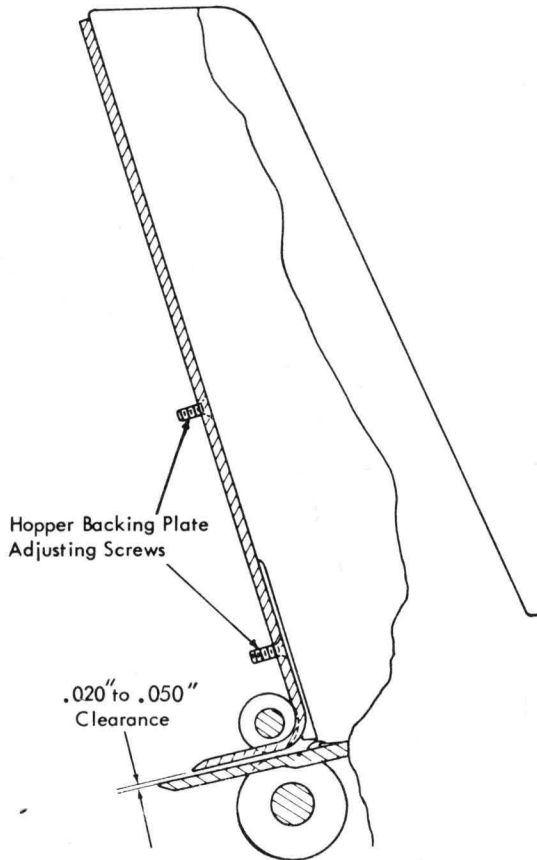

Figure 4-2. Hopper Backing Plate Clearance
8. There must be .020" to .050" clearance between the fingers of the hopper back plate and the hopper bed plate (Figure 4-2).